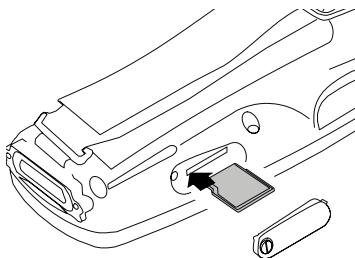

Figure 12. Mini SD Card Installation
2. Remove the cover screw to access the Mini SD card slot (see Figure 12).
3. Insert the Mini SD card as shown in Figure 12.